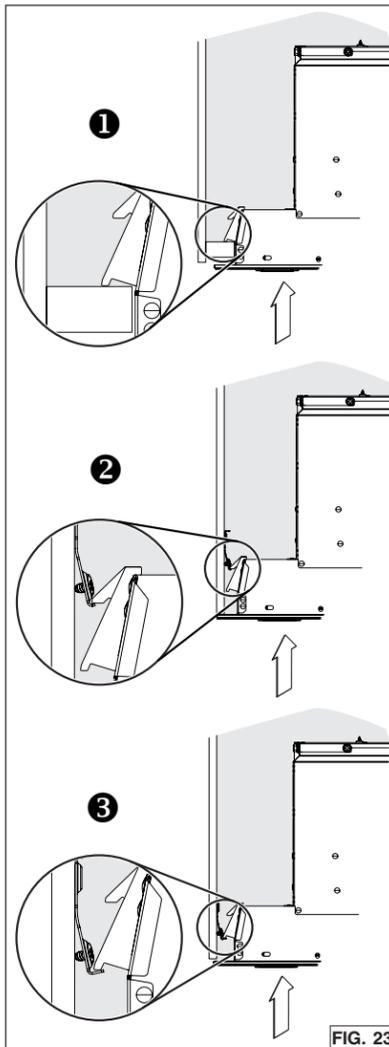

FIG. 23
2. Insert the unit in the cabinet, until you feel a 'click' from both sides of the unit, confirming that the Ease of Install hooks rest on the top of the cabinet bottom sides 1, or cabinet brackets 2 or 3 (FIG. 23). Move the unit from left to right, from rear to front and up to ensure the Ease of Install hooks are retaining the unit inside the cabinet. NOTE: The unit will be protruding below the cabinet until tightened.